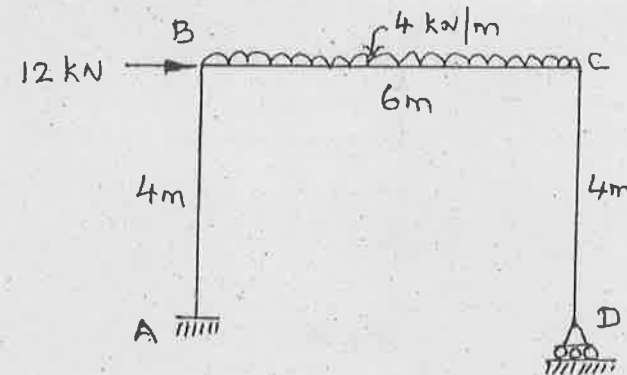

Fig. Q.11(b)
- (b) Using consistent deformation method, determine the vertical reaction at the roller support (D) for the frame shown in Fig. Q.11(b). Flexural rigidity EI is constant for all the members.